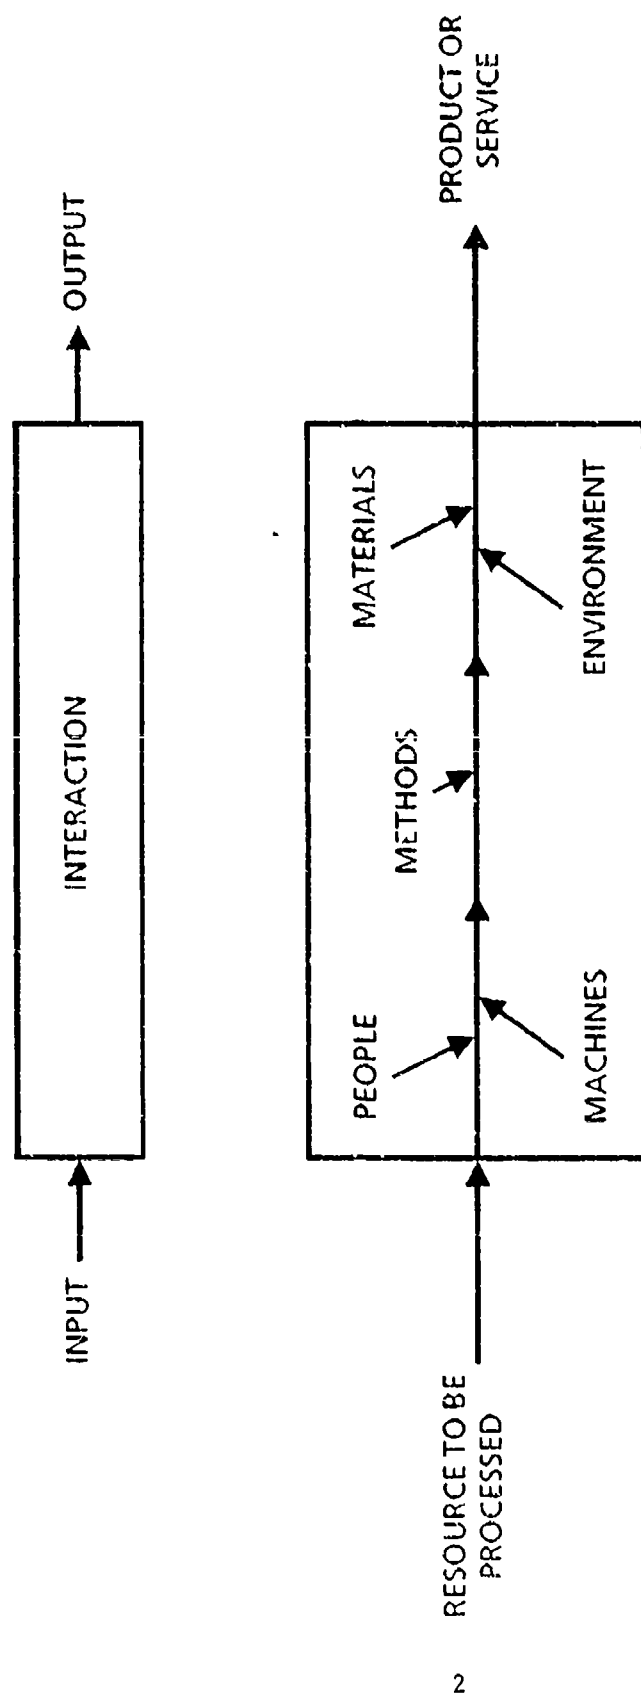

Figure 1. Elements of a process.
A process can be defined as the combination of people, machines, methods, materials, and environment that work together in a systematic way to arrive at a product or service. Each process is comprised of three elements: (1) input, (2) interaction, and (3) output. As depicted in Figure 1, the input is the resource to be processed. The interaction is the working together of people, machines, methods, materials, and environment on the input, and the output is the product or service.